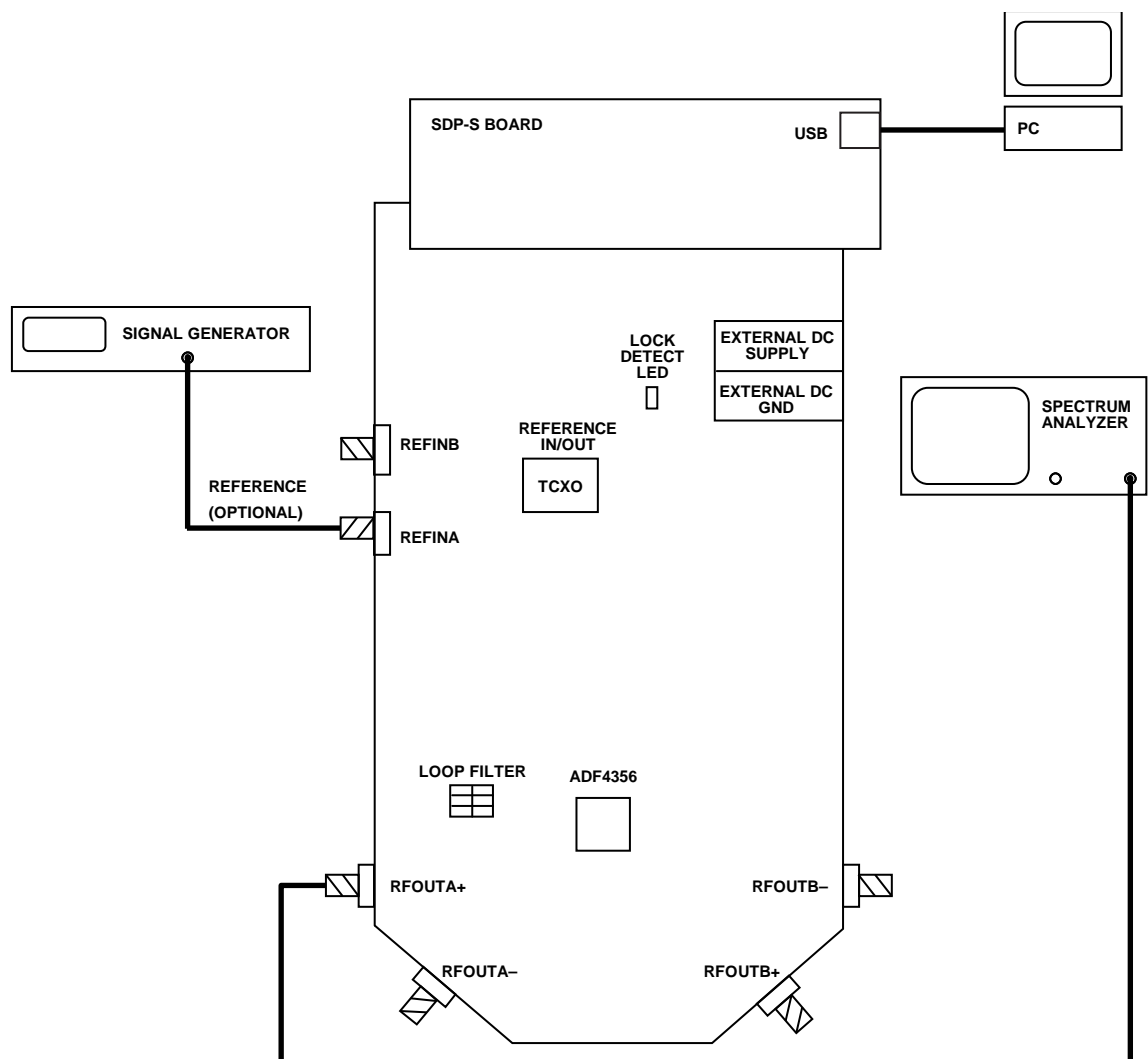

Figure 3. Evaluation Setup Block Diagram
11. Connect the spectrum analyzer to SMA connector RFOUTA+, see Figure 3 for a typical evaluation setup.